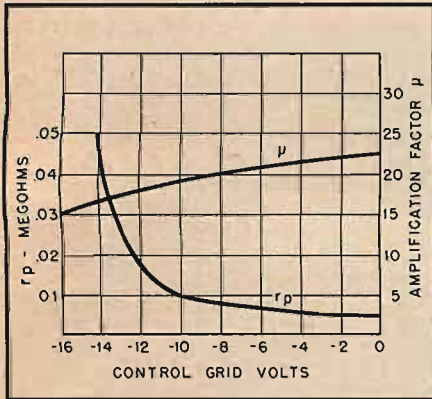

Fig. 2. Graphs of plate resistance vs. grid bias for a triode and of μ with respect to the ratio r_p/r .
Figure 2 shows a plot of plate resistance vs. grid bias for a triode. It can be seen that the plate resistance decreases as the grid bias becomes less negative. Since the bias resistance under grid current conditions consists of $r = \frac{R \times r_g}{R + r_g}$ and the value of r decreases with driving signal, the plate resistance also decreases which tends to make the
Upon examining Eq. (2), we see that if we choose a high μ tube, in addition to the above mentioned design procedure, we can effectively nullify whatever discrepancy there remains in the ratio r_p/r . The fact that μ rises with increasing grid current also helps matters considerably (see Fig. 2).